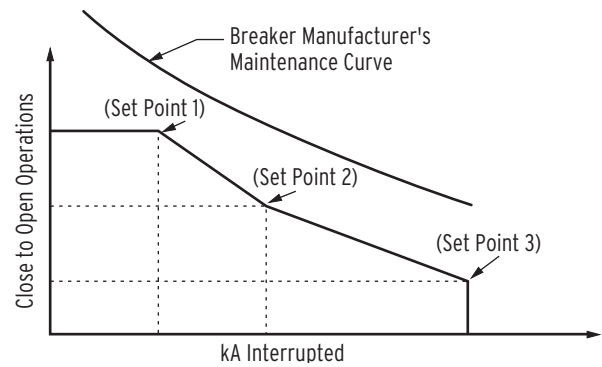

Figure 17 Breaker Contact Wear Curve and Settings
- Every time the breaker trips, the relay integrates interrupted current. When the result of this integration exceeds the threshold set by the breaker wear curve (Figure 17), the relay can alarm via an output contact or the optional front-panel display. With this information, you can schedule breaker maintenance in a timely, economical fashion.